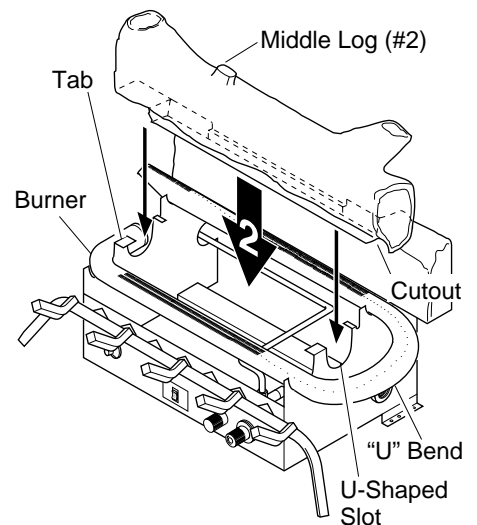

Figure 23 - Installing Middle Log (#2)
2. Place the base of the middle log (#2) in the U-shaped slots of the grate base in front of the back log. The cutout on the right of the middle log should fit over the burner (see Figure 23). Make sure the front of the middle log is resting on the tabs of the grate base and the cutout area is centered over the burner "U" bend.